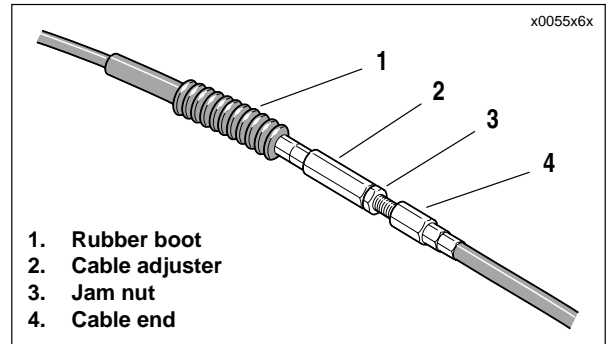

Figure 2-99. Clutch Cable Adjuster Mechanism
8. See Figure 2-99. Slide clutch cable adjuster boot (1) up to access clutch adjuster (2).
9. Loosen clutch adjuster (2) to release tension from hand lever and clutch release mechanism.